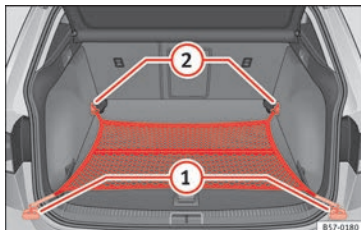

Fig. 167 In the luggage compartment: net bag hooked to the ground.
- As applicable, lift the front fastening rings » Fig. 167 ②.
- Secure the net hooks to the fastening rings ② » ⚠. The bag zip should be facing upwards.
- Secure the net hooks to the fastening rings ①.